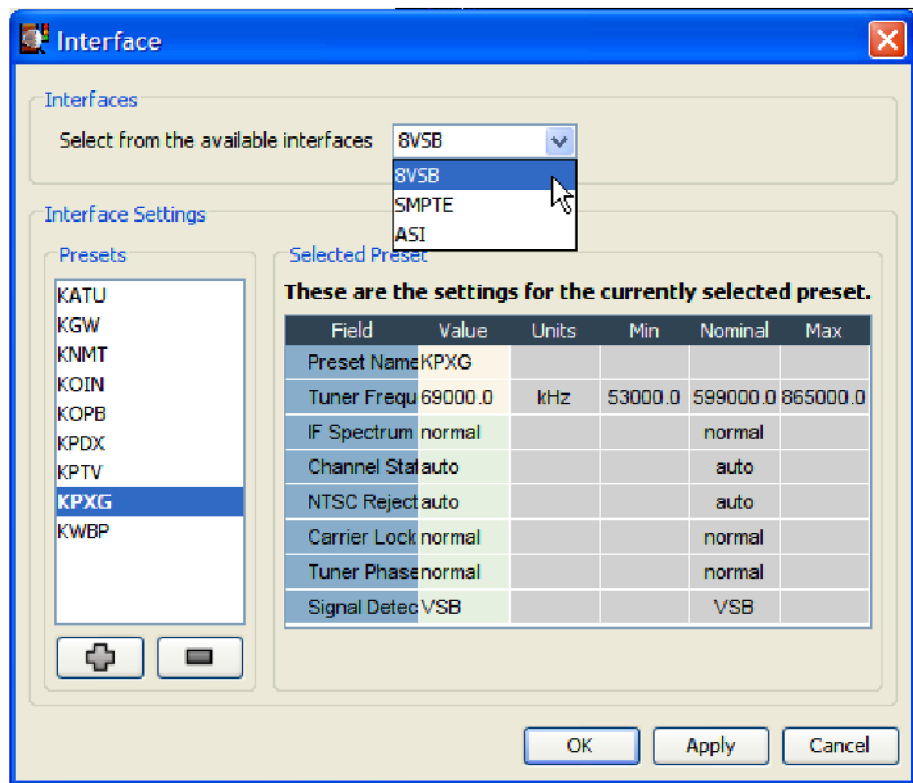

Figure 47: Interface dialog box (RUI v3.0 and above)
3. Click the **Interface** button in the toolbar to open the Interface dialog box. (See Figure 47.)
- Select the desired interface from the Interface drop-down list. The illustration shows the 8VSB interface being selected. (See Figure 47.)